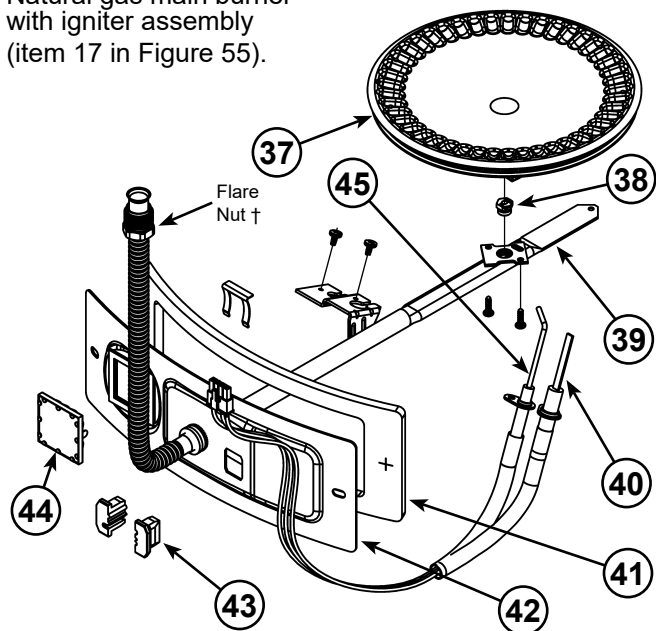

Figure 57.
- 17 Manifold Door Assembly (behind outer door) (see Figure 3 (NG) or Figure 4 (LP)) (see also **Figure 57**)
- 37 Aluminum Burner (see Figure 3) (see also **Figure 57**)
- 38 Gas Orifice (see Figure 3) (see also **Figure 57**)
- 39 Gas Manifold (see Figure 3) (see also **Figure 57**)
- 40 Hot-Surface Igniter (see Figure 3) (see also **Figure 57**)
- 41 Manifold Door Gasket (see Figure 3) (see also **Figure 57**)
- 42 Manifold Door (see Figure 3) (see also **Figure 57**)
- 43 Two Piece Grommet With Clip (see Figure 3) (see also **Figure 57**)
- 44 Viewport (see Figure 3) (see also **Figure 57**)
- 45 Flame Sensor Rod (see Figure 3) (see also **Figure 57**)